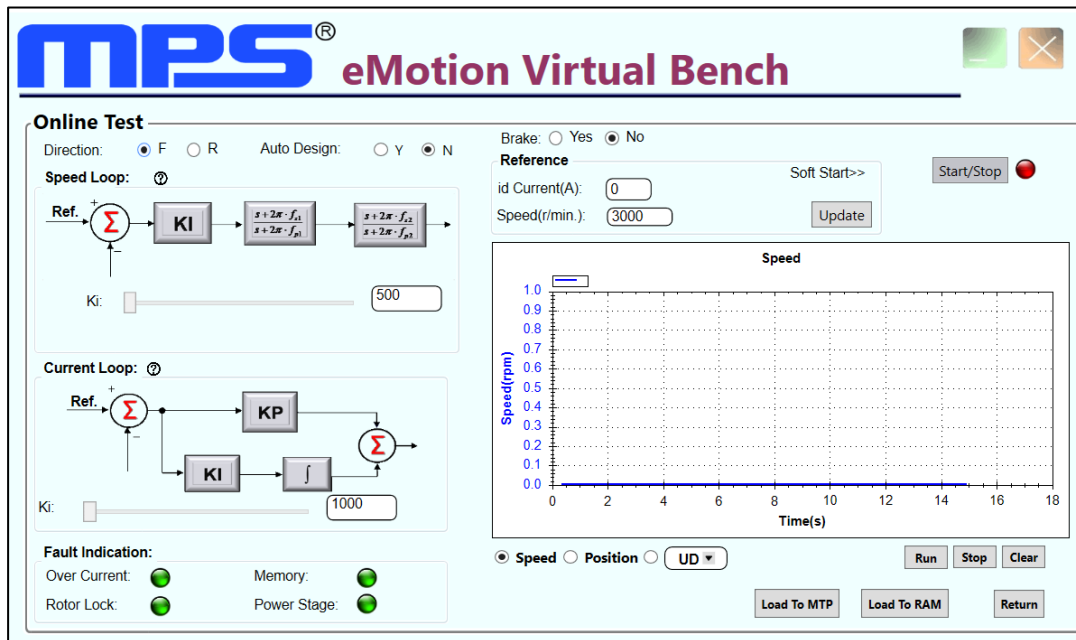

Figure 11: eMotion Virtual Bench Software
- e. Change and update the speed. Monitor the motor speed in the scope (see Figure 11).